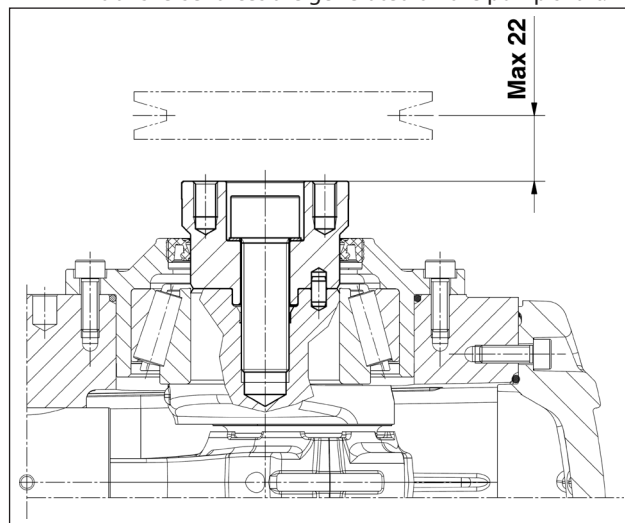

Fig. 13
- Fig. 13. Min diameter of pulley to be used = Ø 100 mm